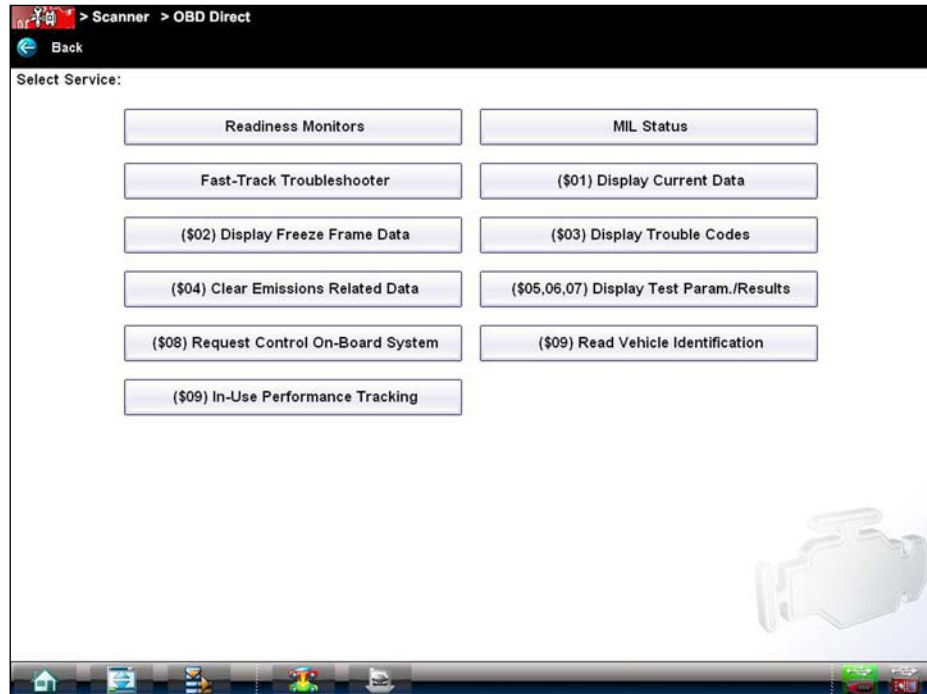

Figure 5-6 Sample Start Communication menu
4. Select **Continue** and a menu of available tests displays (Figure 5-6).